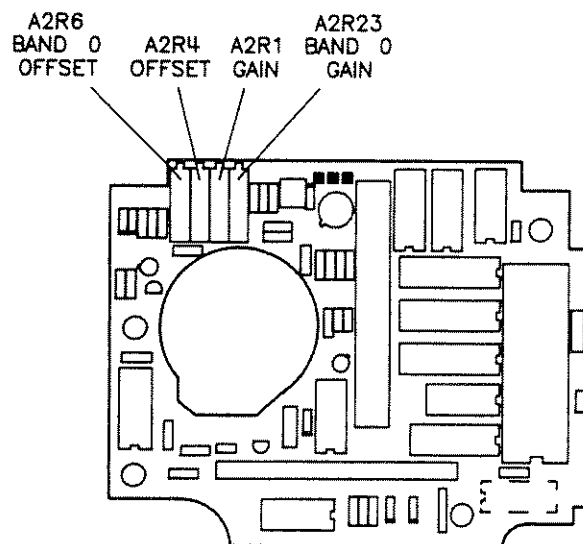

Figure 5-30. Frequency Reference Adjustment Locations
- Adjust A2R4 (OFFSET) for a DVM reading of 3.000 ± 0.005 V dc (see figure 5-30 for the adjustment locations).